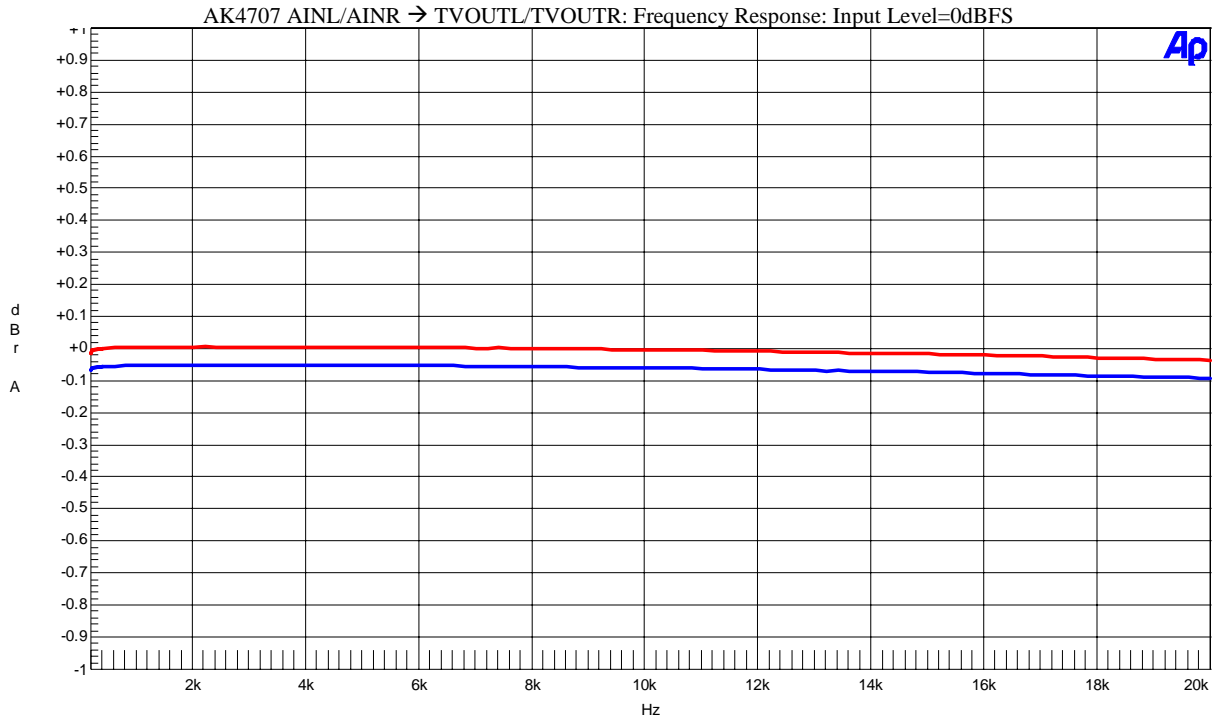

Figure1-7. Frequency Response (Input level=0dBFS)
- Figure 1-7. Frequency Response (Input Level=0dBFS)